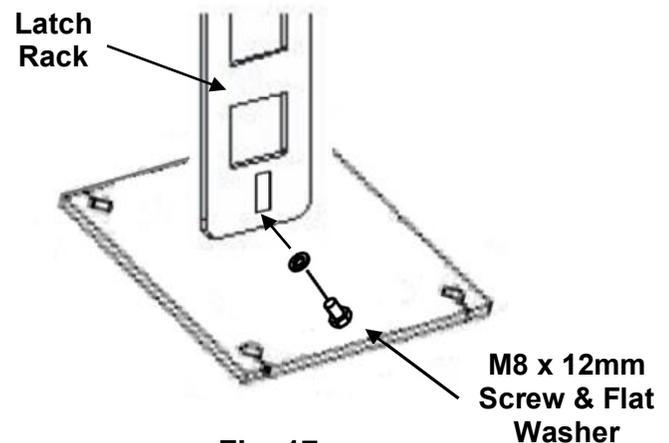

Fig. 17
- 9) Secure the Latch Racks to the back of each Post, using the **M8 x 12mm Screw & Flat Washer**, shown in **Fig 17**.